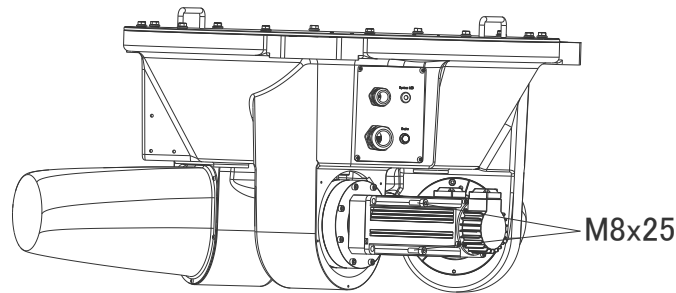

Figure 3-18 Remove the motor fixing screws
Step 4 As shown in Figure 3-18, remove the four hexagonal cylindrical head screws M8x25 to remove the motor.